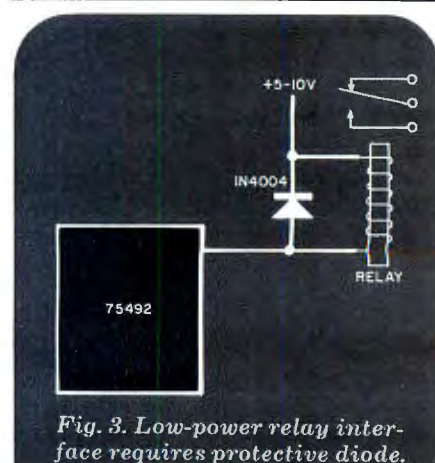
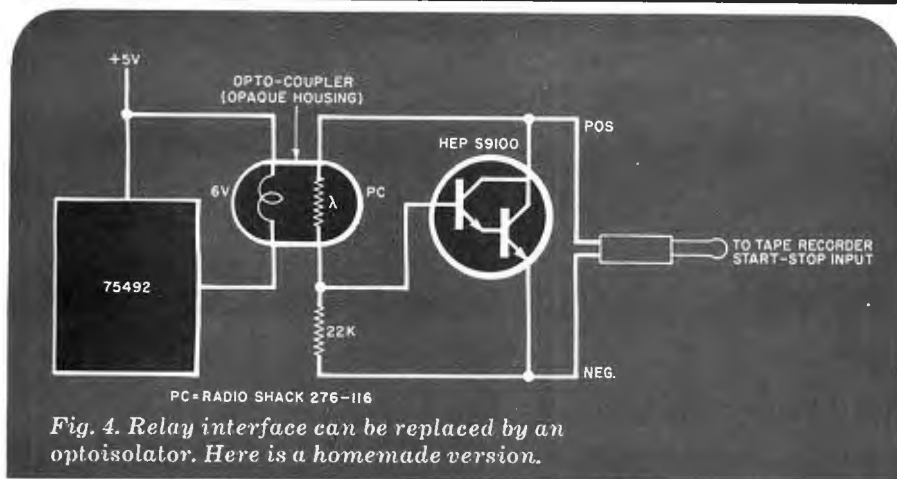

Fig. 3. Low-power relay interface requires protective diode.
Fig. 4. Relay interface can be replaced by an optoisolator. Here is a homemade version.
**DC Relay Interface.** A low-voltage relay whose coil draws less than 200 mA of current can be operated through the output of the IC, as shown in Fig.3. Make sure that the current demand of the relay's coil does not exceed 200 mA, and install a diode as shown to protect the IC from back-emf spikes.
**Tape-Recorder Interface.** Turning on and off a tape recorder under computer control can be very useful for color-slide presentations. Other attractive applications include loading programs from a cassette deck into a computer and storing of programs on tape. The tape deck you wish to control must be equipped with a start/stop control system accessed by way of a jack—usually located near the microphone jack. To turn the tape deck on and off one can connect contacts of a relay (Fig. 3) to a plug inserted in the on/off jack on the tape recorder. If you wish to eliminate the relay, an alternate circuit shown in Fig. 4 uses a Darlington transistor and an optoisolator consisting of a cadmium-sulfide (Cds) photocell and a low-voltage lamp in a light-tight housing. Because this circuit is polarized, it may be necessary to reverse the leads to the tape deck's plug to make the circuit work.